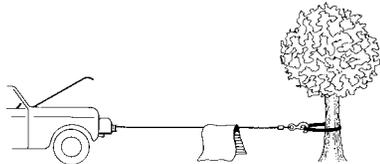

Figure 6
10. It is a good idea to lay a heavy blanket or jacket over the wire rope near the hook end when pulling heavy loads (Figure 6). If a wire rope failure should occur, the cloth will act as a damper and help prevent the rope from whipping. Raise the hood of the vehicle for added protection.